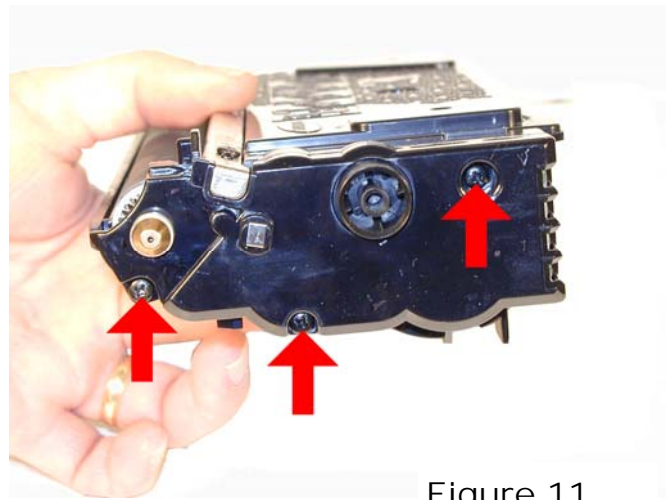

Figure 11
9) Remove the three screws from **Figure 10** the opposite side end cap. See **Figure 11**.